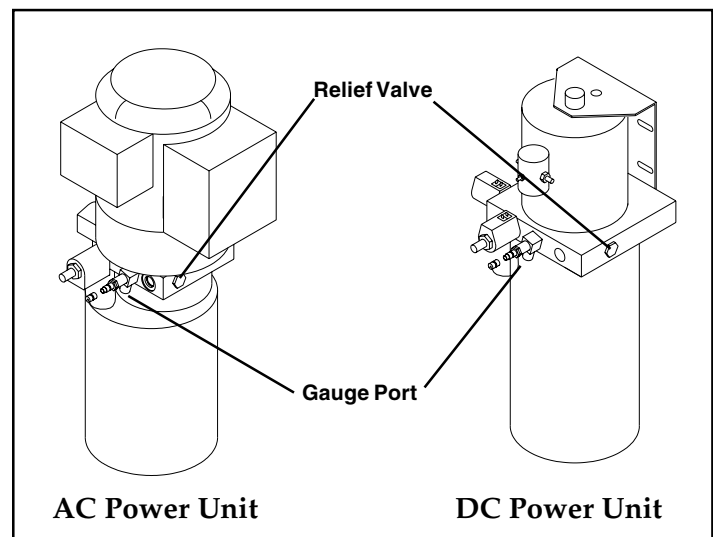

Figure 2-4: System Relief Valve
2.4 Setting System Relief Valve (Figure 2-4)
5. Remove the cap from the System Relief Valve (fig. 2-4), and turn the adjustment screw counterclockwise two full turns.
7. Turn the System Relief Valve Clockwise (fig. 2-4) until the machine begins to rise.